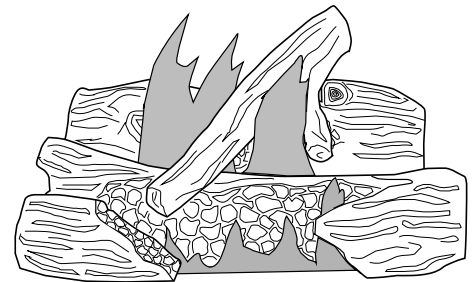

Figure 60 - Typical Flame Pattern for models BHDV34N(A) and BHDV34P(A)
Figure 60 shows a typical flame pattern for BHDV34N(A) and BHDV34P(A).